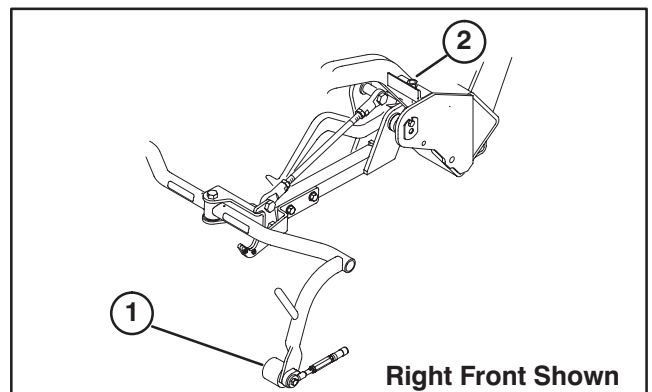

Figure 14
19. Adjust carrier frame rollers (Fig. 14) as follows:
- If an adjustment is required, loosen jam nut on carrier frame stop screw (Fig. 14) and rotate screw up or down to raise or lower carrier frame. Tighten jam nut after adjustment is attained.